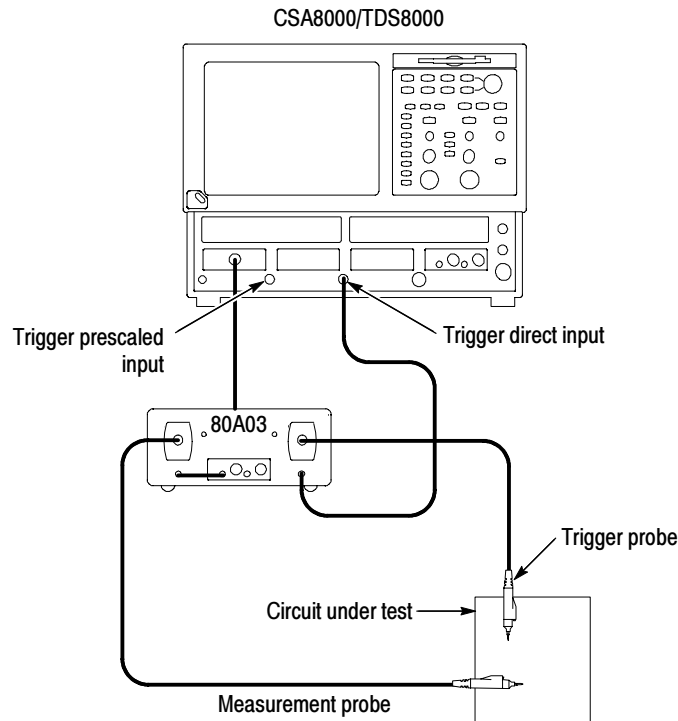

Figure 9: Setup for triggering the sampling oscilloscope using the 80A03 TekConnect Probe Interface Module
2. Use a 0.5 m SMA cable to connect the CH B TekConnect Probe Interface Module to the sampling oscilloscope trigger input (Trigger Direct or Trigger Prescaled). See Figure 9 on page 16.
3. Attach the TekConnect measurement probe to CH A on the TekConnect Probe Interface Module. See Figure 9.
4. Attach a TekConnect trigger probe to CH B on the TekConnect Probe Interface Module. See Figure 9.